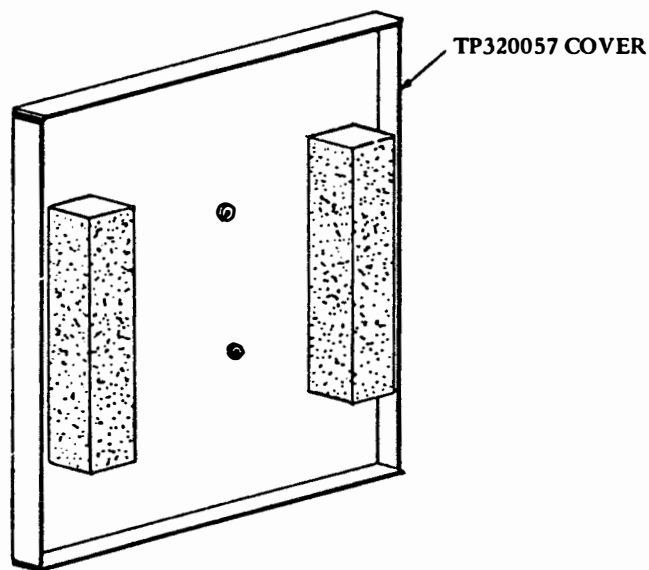

Figure 8-7. Installation of Neoprene Rubber Foam for Electrical Service Assemblies TP321230, TP321231 and TP323813
- (1) Refer to figure 8-7.
- (2) Turn the locking screw to remove and retain the TP321996 cover (with stud).
- (3) Remove and retain the TP320057 inner cover.
- (4) Measure and mark the central locations for the placement of the two TP343732 foam card holders, at the inside edge of the perforations, inside the TP320057 cover.
- (5) Peel the paper backing from each TP343732 foam card holder and place adhesive sides to the inside of the TP320057 inner cover in area as shown on figure. Press foams to obtain maximum adhesion.
- (6) Replace the modified TP320057 inner cover.
- (7) Replace the TP321996 cover (with stud) and lock into position.